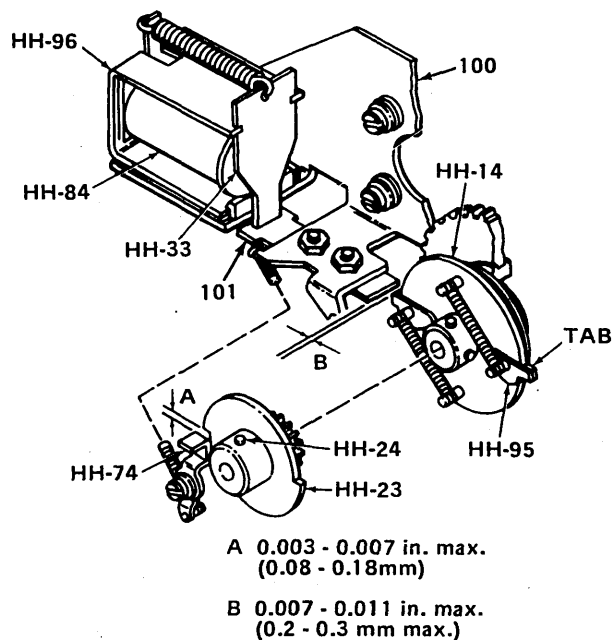

Figure 5-13. TWO ADJUSTMENTS, GEAR WITH STOP CAM (HH-23) AND INSIDE CAM (HH-14)
5.2.9.3 AdjustmentsA. GEAR WITH STOP CAM (HH-23) AND BACK STOPPER (HH-74) (REFER TO FIGURE 8-11(HH) AND FIG. 5-13)
It is at this point, when the shaft is released, that adjustment must be made to the gear with stop cam (HH-23) to prevent counter-movement of paper. (Refer to Figure 5-13).
- a. Move slide (101) and armature (HH-33) by hand toward armature solenoid (HH-84).
- c. Release slide and armature so that cam (HH-14) and pawl (95) is held against the underside of the clutch slide pawl (101) (clutch off).
- d. Make sure that when the tab of the cam and the pawl are against the slide pawl (101) (clutch-off condition) that the back stopper (HH-74) drops off the notched end of gear with stop cam (HH-23). Refer to next step for adjustments.
B. CLUTCH, INNER CAM (HH-14) - CLUTCH SLIDE PAWL(101) (REFER TO FIGURE 5-13 AND 8-11)
1. To adjust proper distance of clutch slide pawl (101) to hold raised tab on paper feed clutch, inner cam (HH-14) prior to line feed release, perform the following steps: